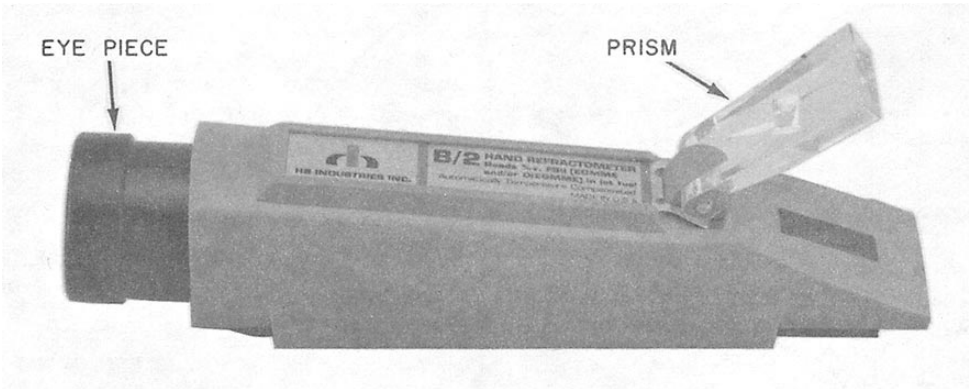
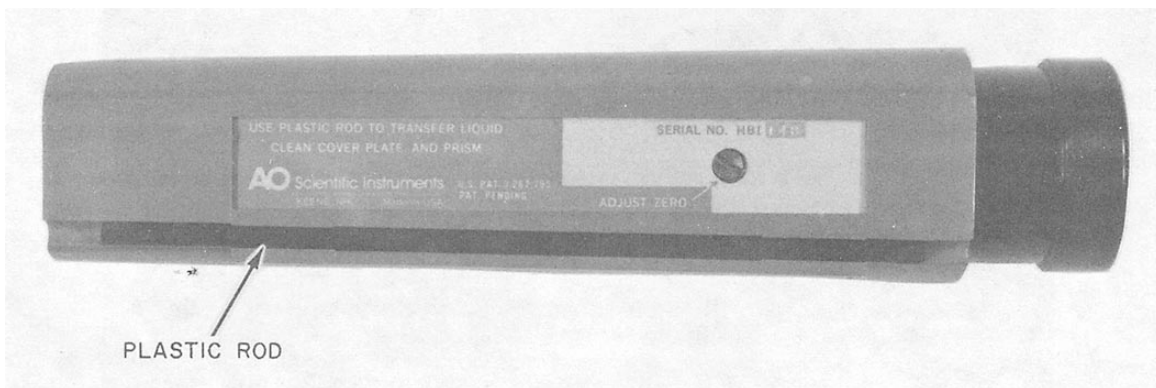

Figure 3-11.—Refractometer (top view).
Figure 3-12.—Refractometer (side view).
The name refractometer tells you how it works. By the prism on the front (fig. 3-11), light is refracted through the sample being tested onto the scale inside the refractometer.
8. Open the hinged plastic cover of the refractometer's window (fig. 3-11), make sure the window and cover are clean, and place several drops of water on it. Close the cover and look through the eyepiece. Observe the shadow line. Remove the black plastic rod from the bottom of the refractometer. Using the rod, adjust the setscrew (on the bottom of the refractometer) until the shadow line meets the zero line of the scale. See figures 3-12 and 3-13. By adjusting the set screw